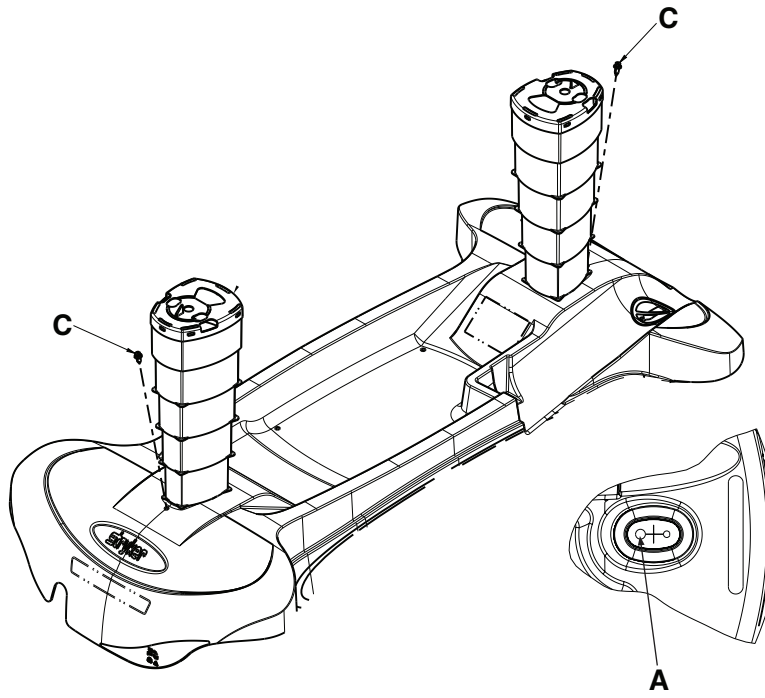

Figure 3 – Raising and lowering the hood
4. Using a #2 Phillips screwdriver, remove the scrulok assemblies (C) that secure the hood to the hood retainer on the outside of the head end and foot end jacks, if applicable (Figure 3).
8. Replace the bellows (removed in step 6) over the jack shaft on both ends of the product. Fit the bellows through the hole in the hood to secure the hood. Make sure that the large hole (A) faces toward the center of the hood on both ends (Figure 3).